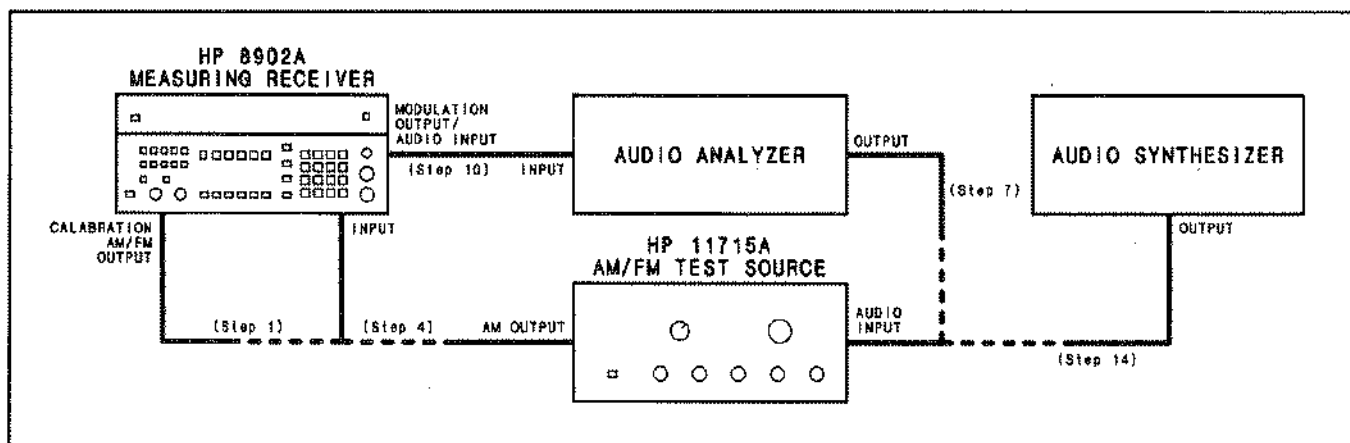

Figure 4-1. AM Performance Test Setup
4. On the AM/FM test source, set the test mode switch to AM. Connect the test source AM output to the Measuring Receiver's INPUT. (See Figure 4-1. Nothing should be connected to the test source's audio input.)
7. Set the audio analyzer's oscillator to 20 kHz. Connect its output to the audio input of the AM/FM test source. (See Figure 4-1.)
10. Connect the audio analyzer's input to the Measuring Receiver's MODULATION OUTPUT/AUDIO INPUT. (See Figure 4-1.) Set the audio analyzer to measure the distortion on the 20 kHz signal at the MODULATION OUTPUT/AUDIO INPUT with 80 kHz of low-pass filtering (on the audio analyzer). The distortion should be 0.3% or less (-50 dB or less).
14. Set the audio synthesizer to 1 kHz at +1 dBm. Connect its output to the audio input of the AM/FM test source. (See Figure 4-1.) Fine adjust the audio synthesizer level for a Measuring Receiver display of 80% AM.